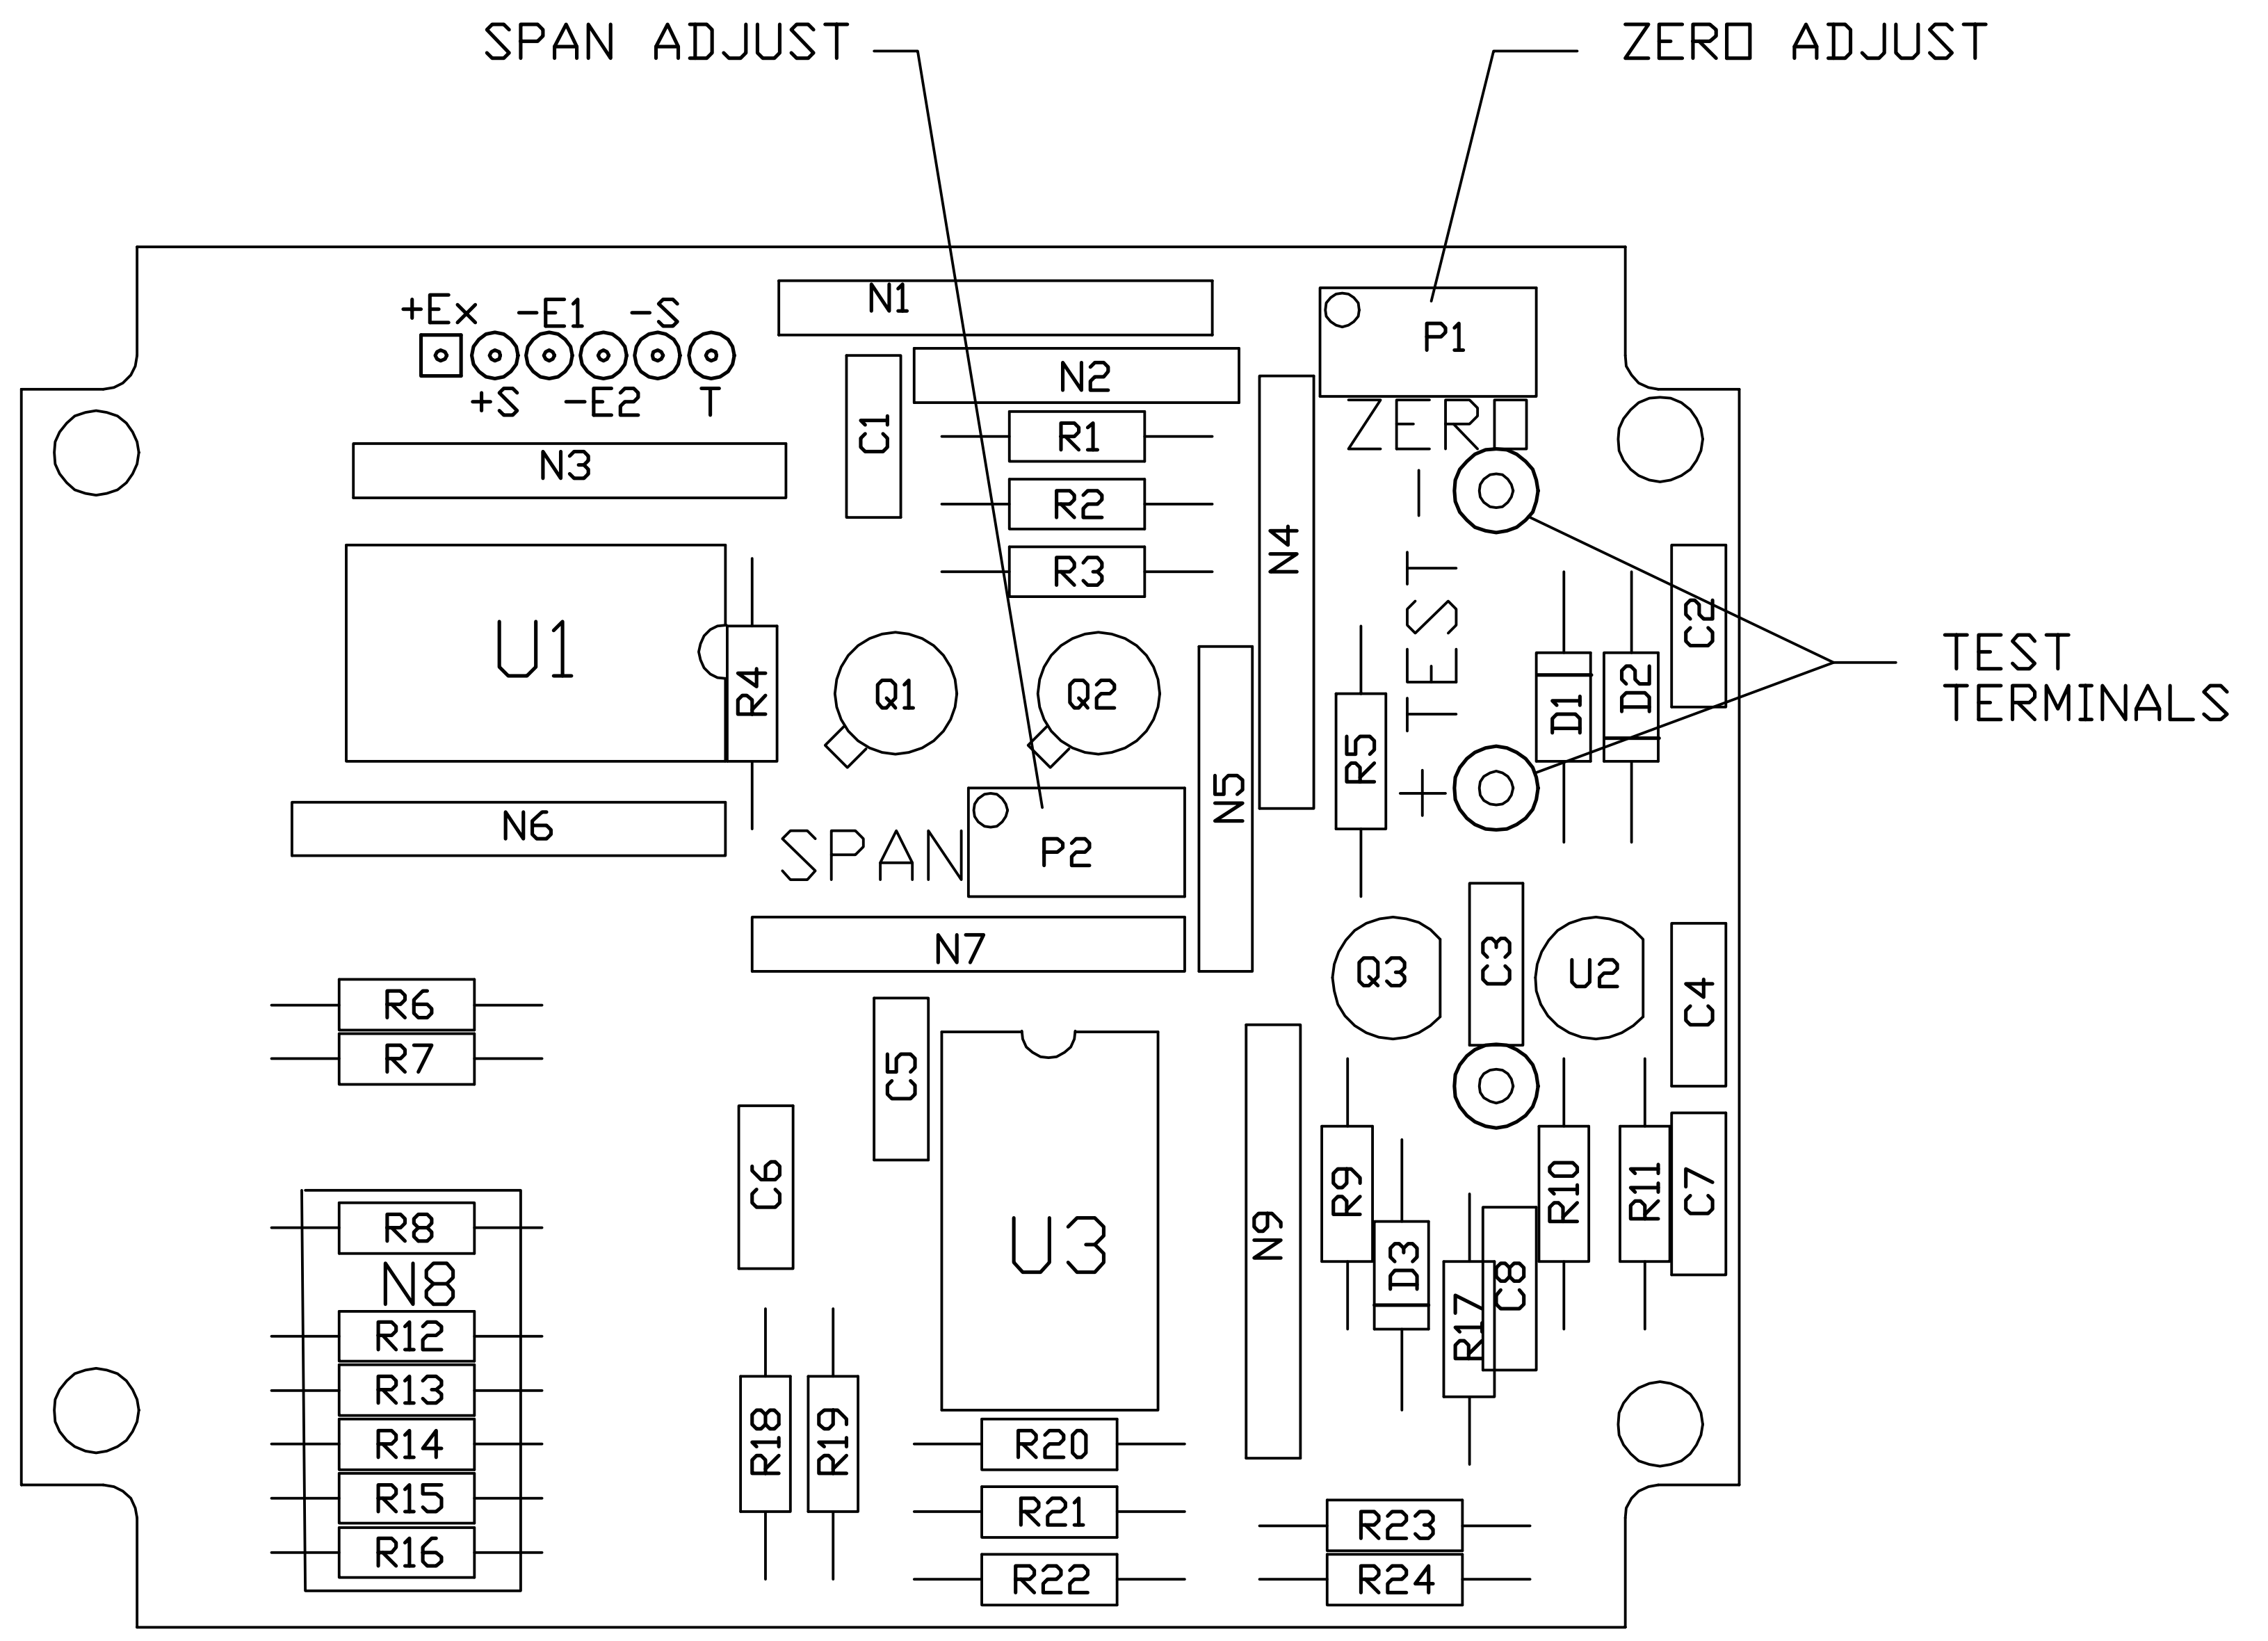

FIGURE 6-2. MAIN BOARD ASSEMBLY-CALIBRATION ADJUSTMENTS
- e) Verify that the differential pressure transducer output current indication is 4.0 ± 0.16 mA dc. Perform ZERO adjustments to obtain the differential pressure transducer's output as specified. Zero is accomplished by a screwdriver adjustment of the ZERO potentiometer located on the MAIN Board Assembly inside the circuit compartment of the housing (Figure 6-2).
- h) Verify that the differential pressure transducer output current indication is 20.0 ± 0.16 mA dc. Perform SPAN adjustments to obtain the pressure transducer's output as specified. Span is accomplished by a screwdriver adjustment of the SPAN potentiometer located on the MAIN Board Assembly inside the circuit compartment of the housing (Figure 6-2).